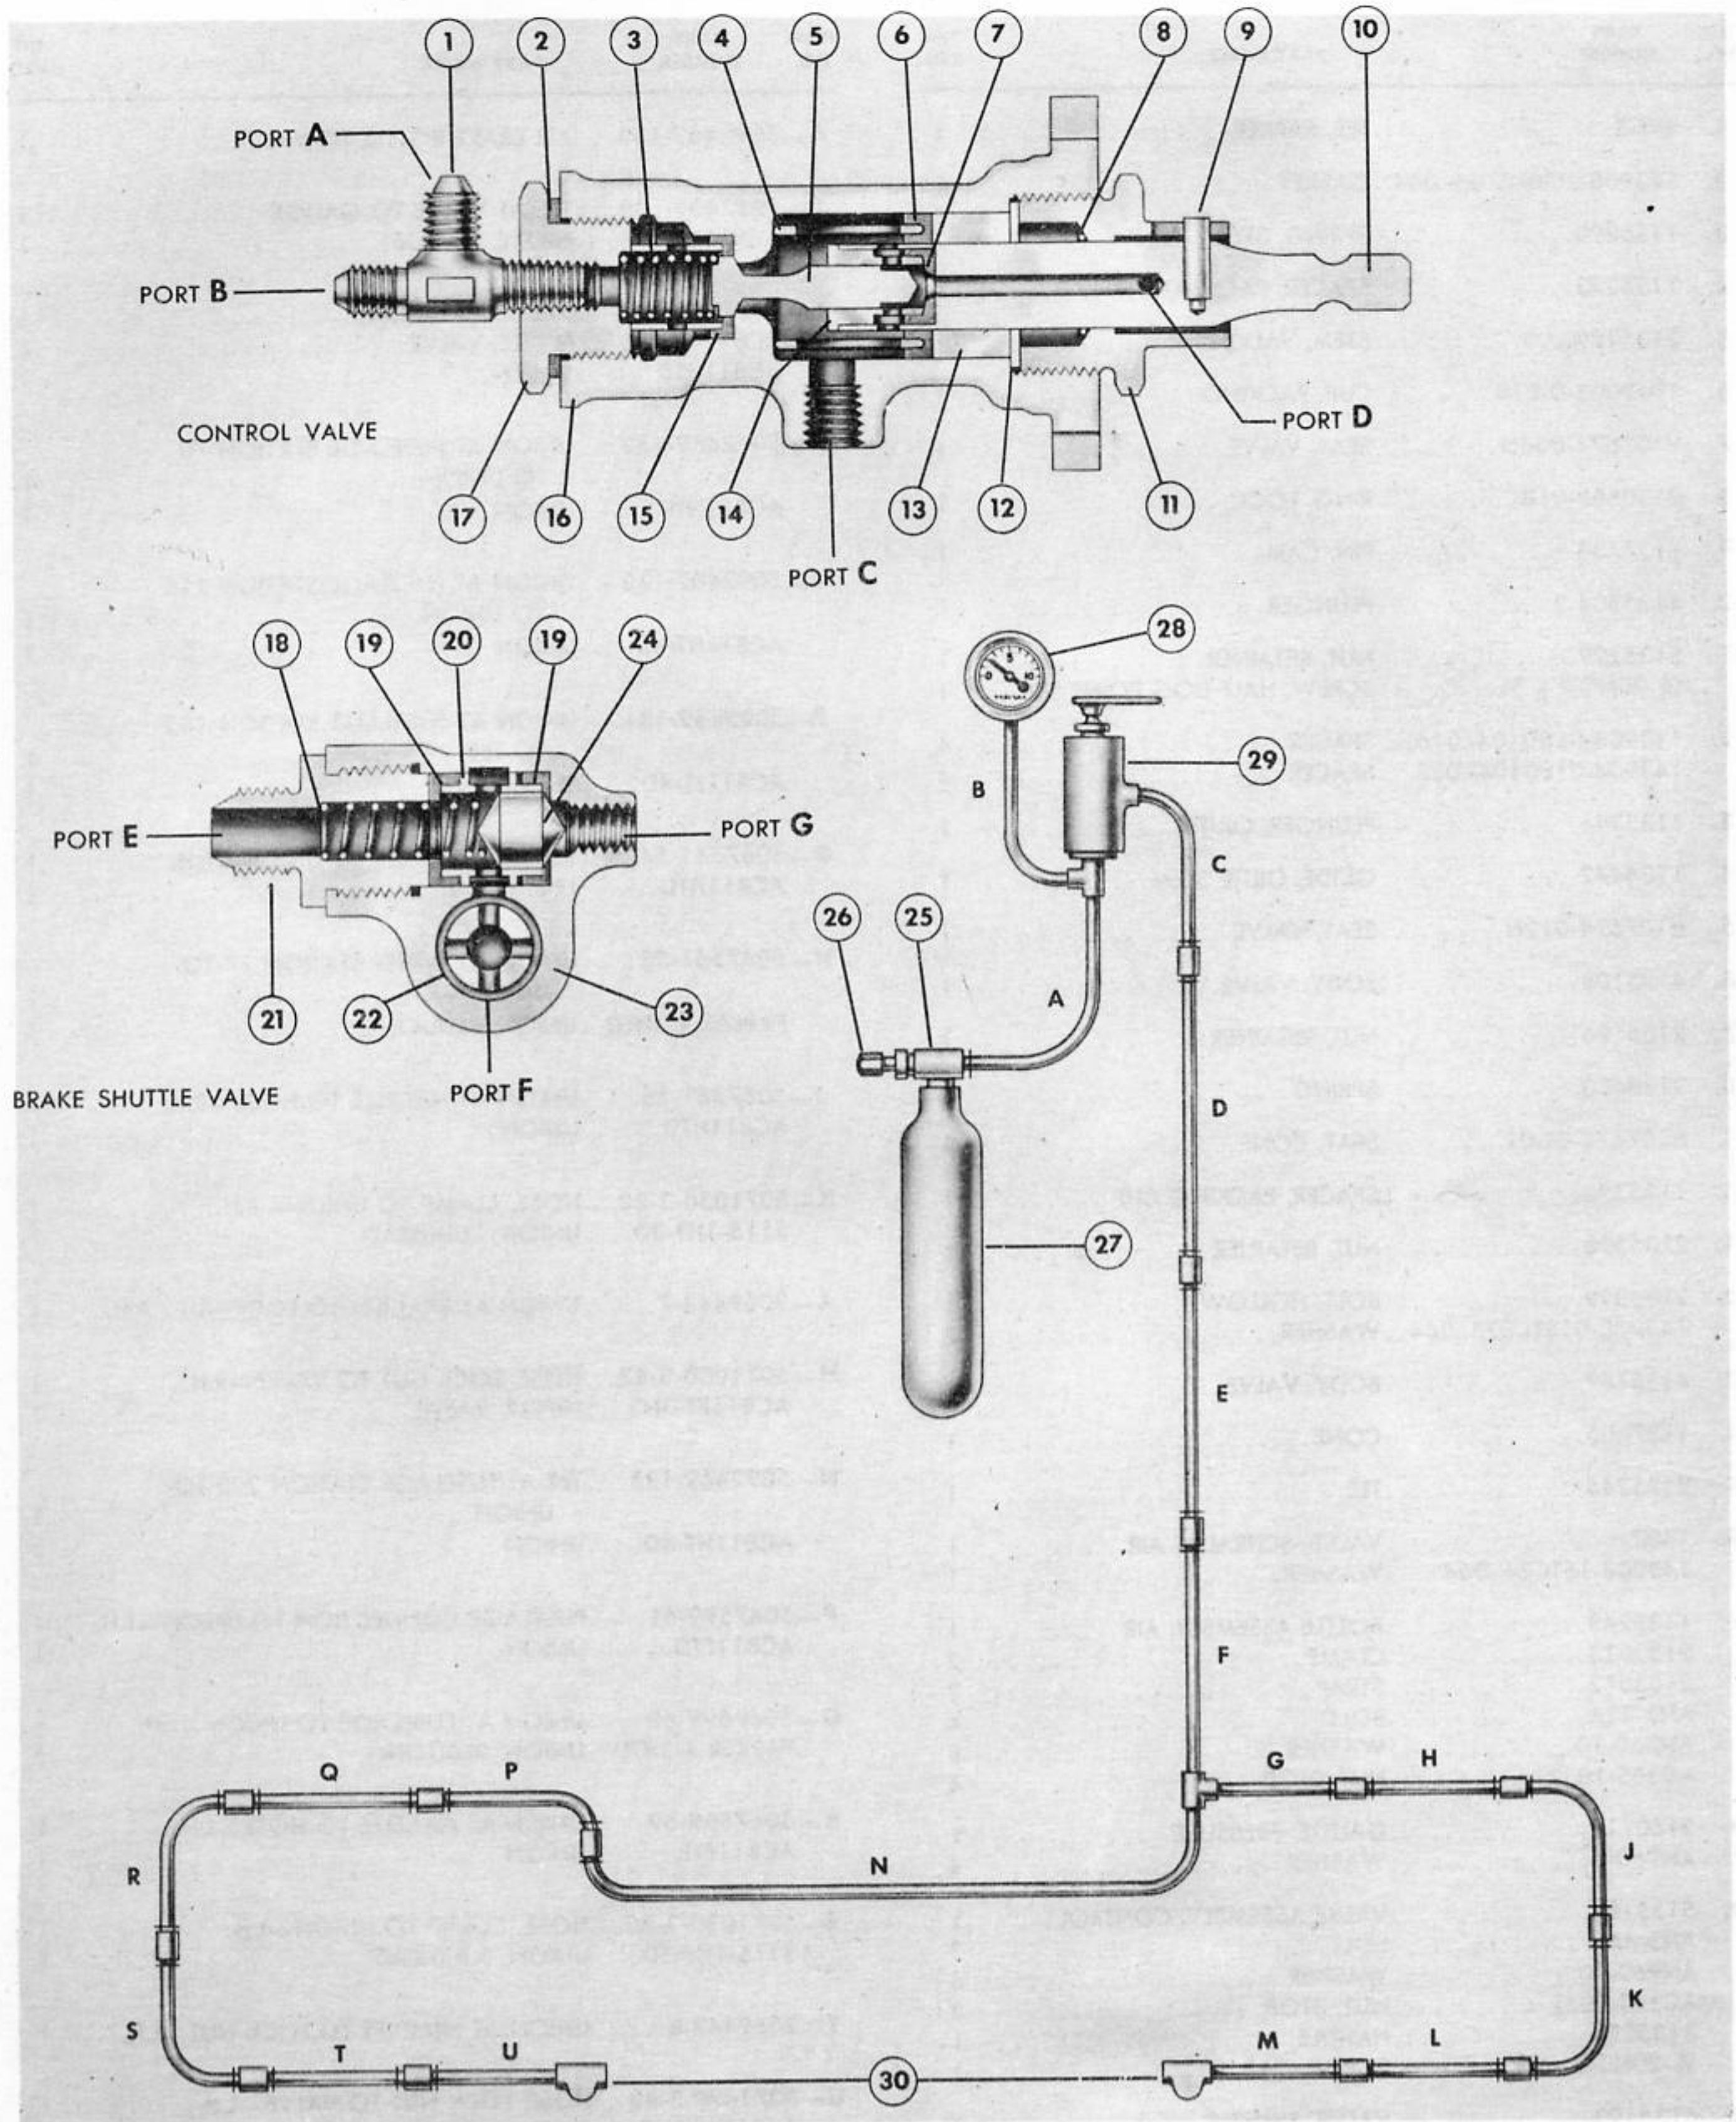

Figure 64 - EMERGENCY AIR-BRAKE SYSTEM
(9) EMERGENCY AIR BRAKE SYSTEM. (See figure 64.)
LEGEND FOR FIGURE 64